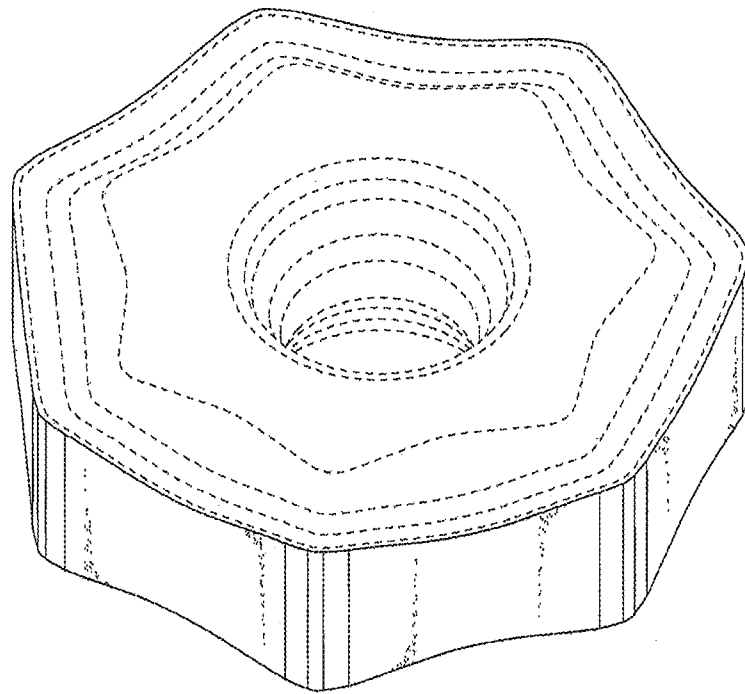
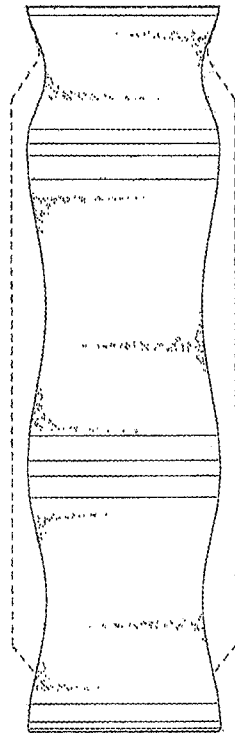

FIG. 21
Fig. 25
*FIG. 21 is a front elevation view of the fourth embodiment. The rear elevation view is identical to the front elevation view.*
*FIG. 25 is a cross-sectional view of the fourth embodiment taken along line 25-25 in FIG. 21.*